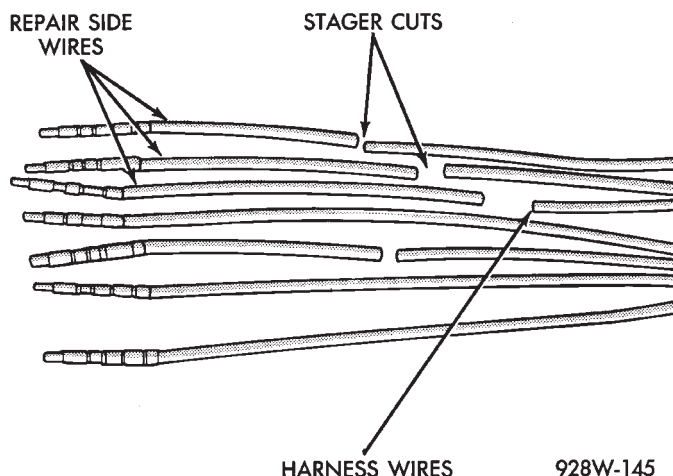

Fig. 18 Stagger Cutting Wires
(3) Cut off the existing wire connector directly behind the insulator. Remove six inches of tape from the harness.
(4) Stagger cut all wires on the harness side at 1/2 inch intervals (Fig. 18).
(5) Remove 1 inch of insulation from each wire on the harness side.
(6) Stagger cut the matching wires on the repair connector assembly in the opposite order as was done on the harness side of the repair. Allow extra length for soldered connections. Check that the overall length is the same as the original (Fig. 18).
(7) Remove 1 inch of insulation from each wire.
(8) Place a piece of heat shrink tubing over one side of the wire. Be sure the tubing will be long enough to cover and seal the entire repair area.
(9) Spread the strands of the wire apart on each part of the exposed wires.
(10) Push the two ends of wire together until the strands of wire are close to the insulation.
(11) Twist the wires together.